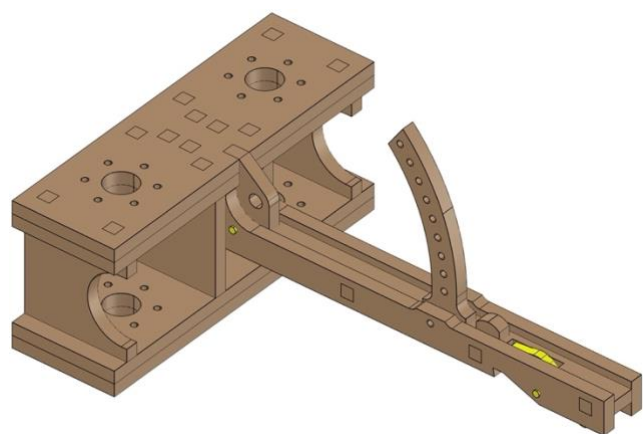

Fig. 28
- *Fig. 28* shows the completed process.